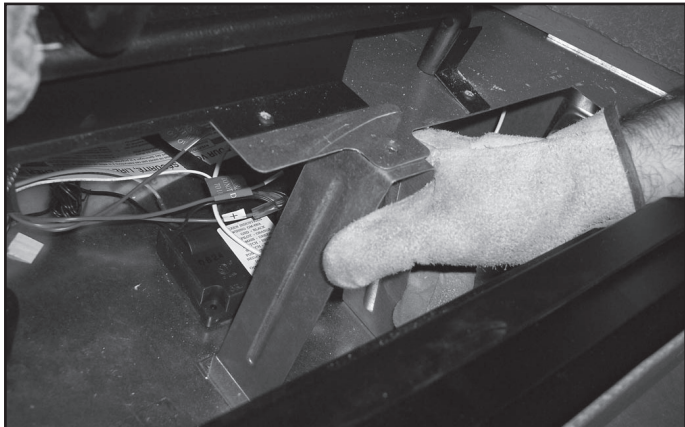

Figure 14.2 Squeeze Support
- Squeeze the support to disengage from the lances in the bottom pan. See Figure 14.2.